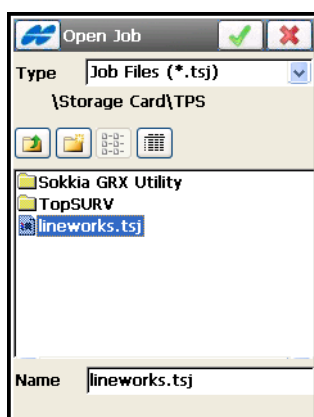
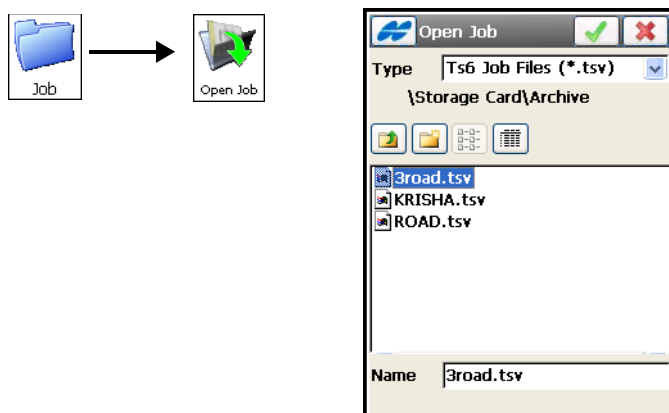

Figure 2-2. Open Existing Job
Figure 2-5. Open Old Job
- **Browse** – press to display browse directories to navigate to a desired job. Highlight the file and press the ok  button to open the job from a remote directory (Figure 2-2 on page 2-2).
To open a job created in TopSURV version 6.11.03 and earlier, click **Job ▶ Open Job** and tap the **Browse** button in the *Open Job* screen (Figure 2-2 on page 2-2). Then select the *Ts6 Job Files (*.tsv)* type, navigate to the desired tsv job, highlight it, and press the ok  button (Figure 2-5).
When within a menu option, the title bar displays the *Topcon Logo Help Icon*, the name of the open screen, and any system buttons (the green tick  ok button and the red “x”  cancel button) used to save settings or not (Figure 2-2 on page 2-2).